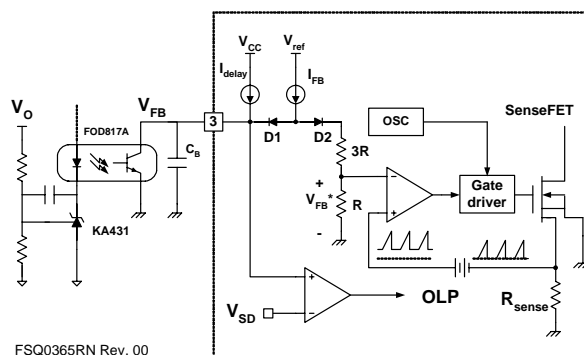

Figure 21. Pulse-Width-Modulation (PWM) Circuit
2. Feedback Control: FPS employs current mode control, as shown in Figure 21. An opto-coupler (such as the FOD817A) and shunt regulator (such as the KA431) are typically used to implement the feedback network. Comparing the feedback voltage with the voltage across the R_{SENSE} resistor makes it possible to control the switching duty cycle. When the reference pin voltage of the shunt regulator exceeds the internal reference voltage of 2.5V, the opto-coupler LED current increases, thus pulling down the feedback voltage and reducing the duty cycle. This event typically happens when the input voltage is increased or the output load is decreased.
2.1 Pulse-by-Pulse Current Limit: Because current mode control is employed, the peak current through the SenseFET is limited by the inverting input of PWM comparator (V_{FB}^*), as shown in Figure 21. Assuming that the 0.9mA current source flows only through the internal resistor ($3R + R = 2.8k$), the cathode voltage of diode D2 is about 2.5V. Since D1 is blocked when the feedback voltage (V_{FB}) exceeds 2.5V, the maximum voltage of the cathode of D2 is clamped at this voltage, thus clamping V_{FB}^* . Therefore, the peak value of the current through the SenseFET is limited.